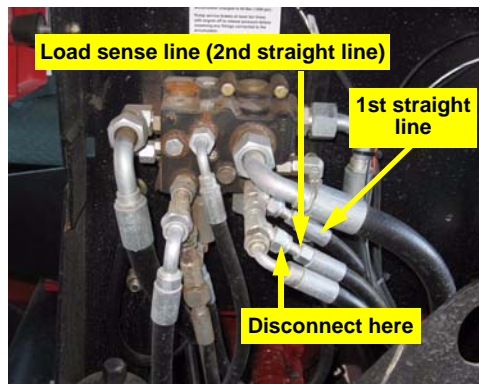

Figure 4c: Load sense line at divider
- c. Trace the load sense line to the hydraulic divider mounted on the front side of the firewall. Disconnect the load sense line from the corresponding run tee (Figure 4c).
The load sense line could be the first or the second straight line from the hydraulic divider. It is the second one in Figure 4c.